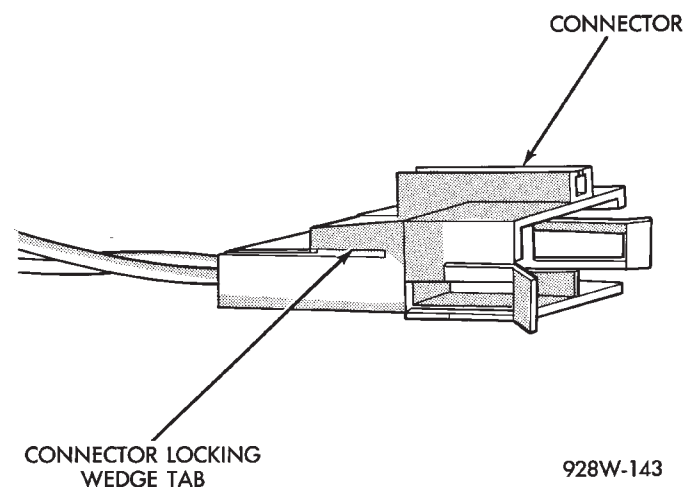

Fig. 13 Connector Locking Wedge
- (3) Remove the connector locking wedge, if required (Fig. 13)